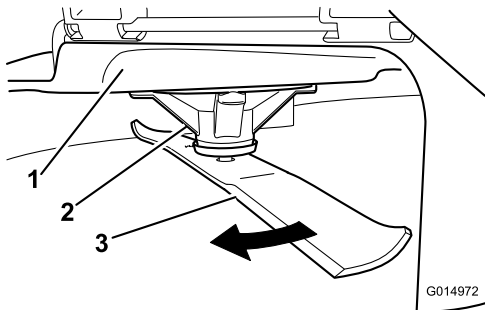

Figure 111
2. While wearing thickly padded gloves, or other adequate hand protection, slowly rotate the blade into a position that allows you to measure the distance between the cutting edge and the level surface the machine is on (Figure 111).